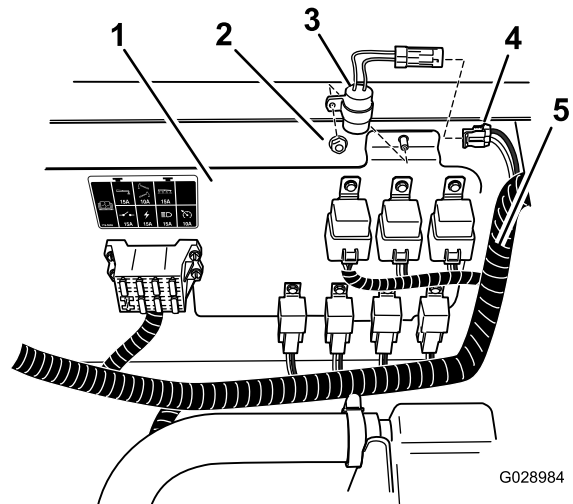

Figure 29
4. Connect the delay timer to the main wiring harness at this location (Figure 29).
5. Install a 40-amp fuse to the open slot in the fuse block as shown in Figure 29.